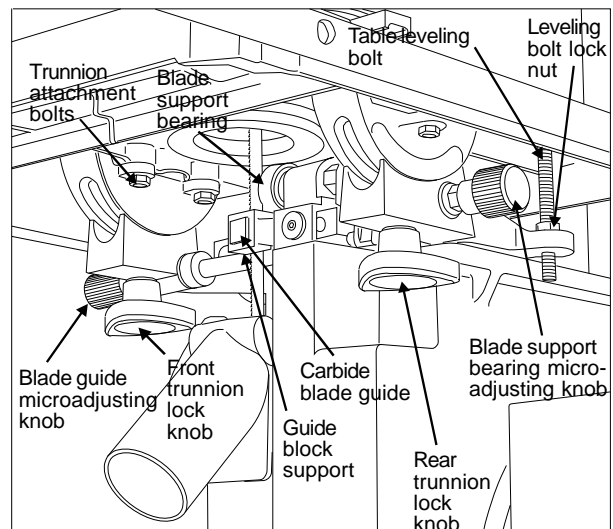

Figure 12. Lower Blade Guide Support Rear View
11. With everything locked down, look at the pointer for the angle gauge. It should be exactly on the zero mark of the gauge (*Figure 12*). If not, loosen the pointer screw, adjust the pointer until it is on zero, then tighten the pointer screw while holding the pointer securely in position on zero.
2. Measure from both ends of the miter slot to the straight edge.³ If the measurements are not equal at both ends of the slot, loosen six bolts securing the table to the table trunnions (see *Figures 12 and 13*.)
17. Using the micro-adjusting knob, move the lower blade support assembly (*Refer to Figure 12*) forward until the support bearing just contacts the back edge of the saw blade.